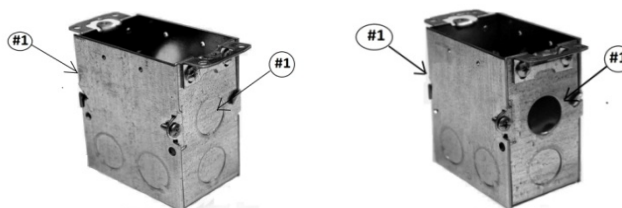

Figure 3 – In-Line Fuse Junction Box Knockout #1
Step 3— Locate the two Electrical junction boxes for the In-Line Fuse Modules. Remove knockout "1" from both sides of the "In-Line Fuse" junction boxes as shown in Figure 3.